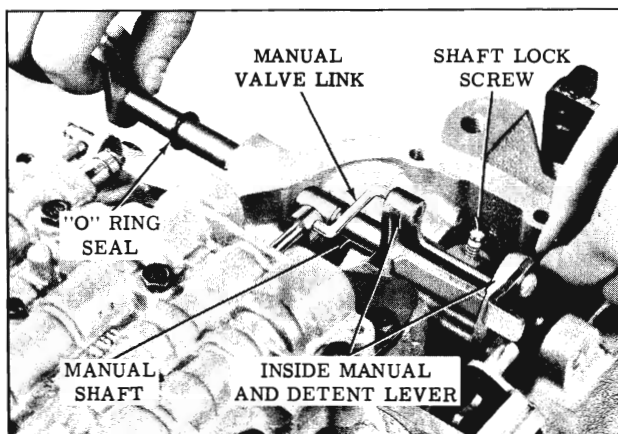

Fig. 3-226 Removing Manual Valve Link
12. Slide manual shaft out of retainer to remove valve link. (Fig. 3-226)